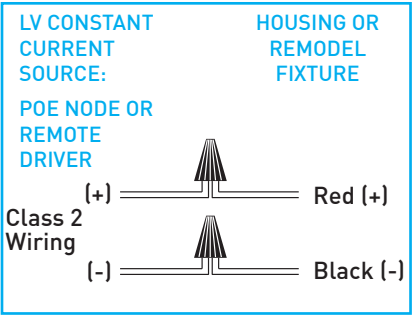

Fig.20
Splice compartment / power supply assembly provides two (2) wires for connection to low voltage: Red (+) and Black (-)/(Fig. 20).